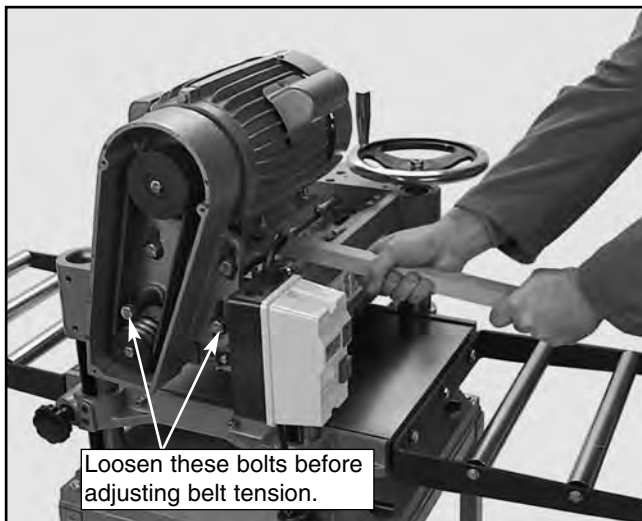

Figure 28. Adjusting belt tension.
2. Insert a wooden lever of suitable strength and pry the motor up to increase belt tension. See **Figure 28**.